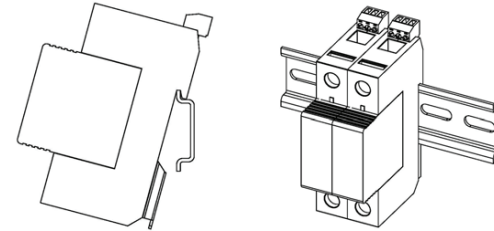

Figure 2 - Installation
1. Mounting: Position the SPD as close to the equipment being protected as possible in order to minimize the conductor length. The SPD should be attached to a securely mounted 35mm DIN rail. The SPD shall be mounted by positioning the terminal block end on the top edge of the DIN rail and pressing downward until a 'click' is heard (see Figure 2).